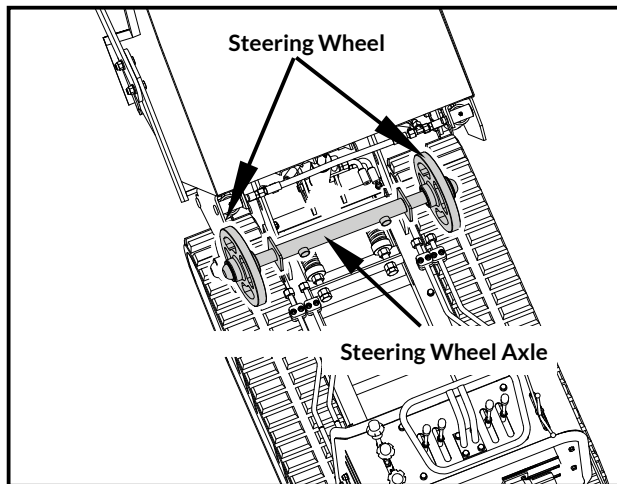

Figure 21
3. Loosen the adjusting bolts and pull the steering wheel axle toward the engine, then track will be loosen. See figure 21.